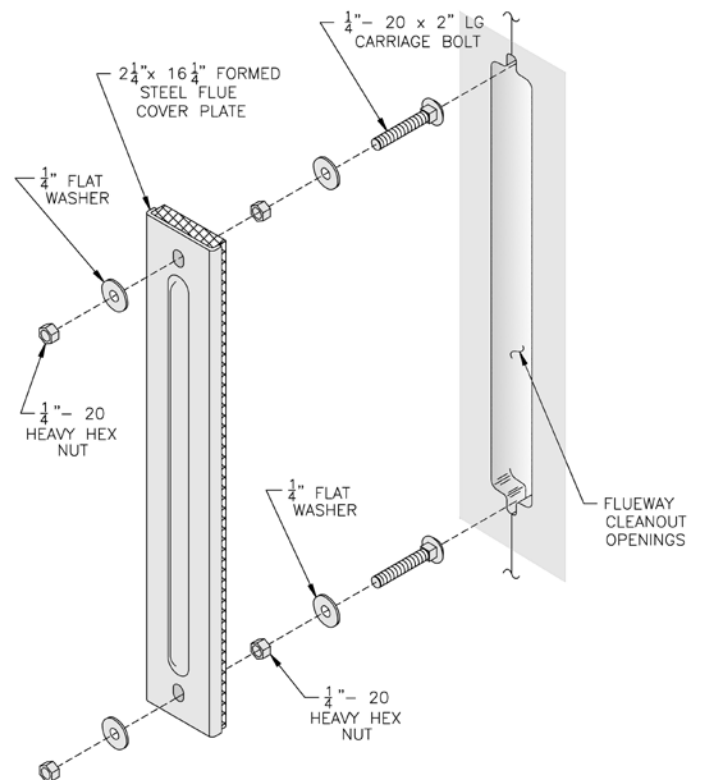

Figure 19: Flue Cover Plate Attachment
B. INSTALL FLUE COVER PLATES over cleanout openings on left side of boiler as shown in Figure 19. See Important Product Safety Information on Page 21 of this manual, regarding refractory ceramic fiber product warning.
2. Remove insulation from two (2) 3/8" diameter holes in flue cover plates using a 3/8" drill bit. Rotate bit through insulation by hand.